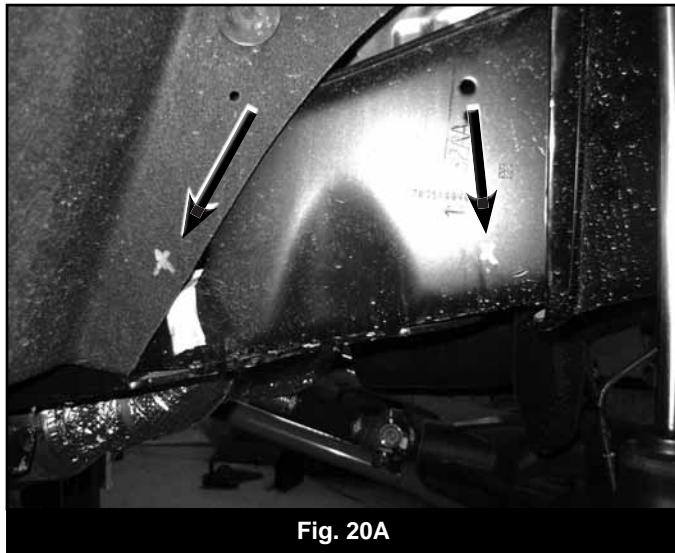

Fig. 20A
50. The ABS lines need to be rerouted along the frame. Make a mark on the frame approximate 1-1/2" behind the coil bucket and 1-1/2" from the bottom of the frame. Drill a 7/32" hole at the mark. Drill a second 7/32" hole in the inner fender liner, straight back from the first hole location. (Fig 20A)